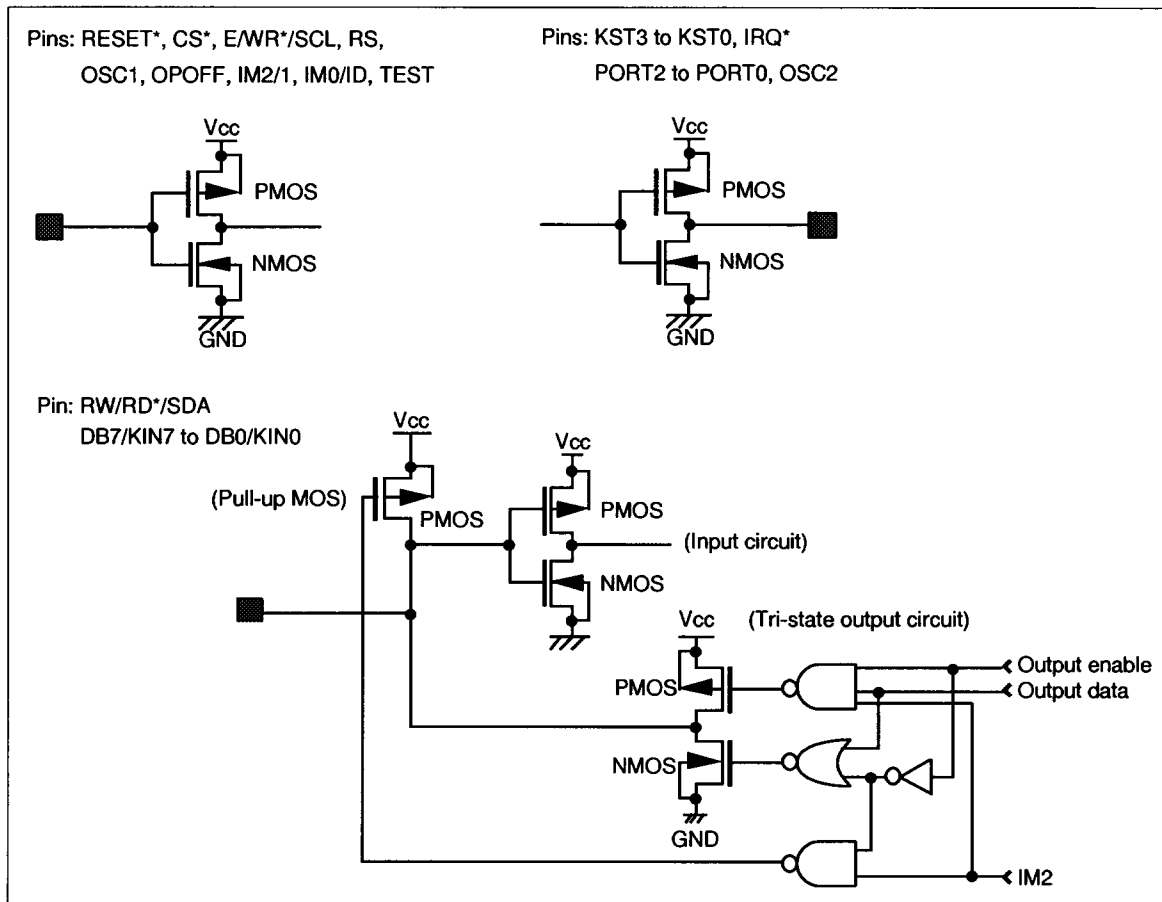

Figure 69 I/O Pin Configuration
2. The following three circuits are I/O pin configurations (figure 69).